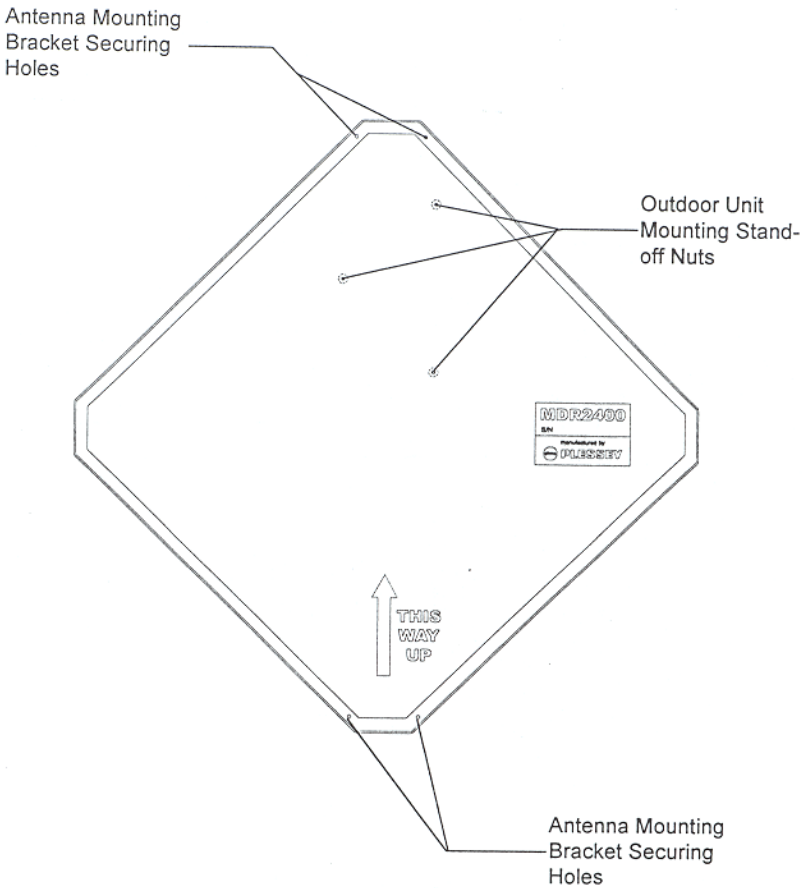
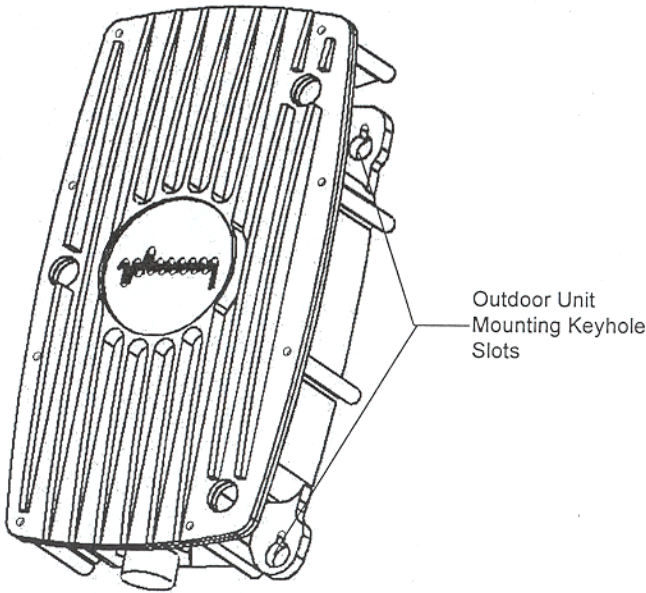

Figure 6. μLink Antenna.
Figure 7. μLink Outdoor Unit.
| 1. | Secure the C-shaped mounting bracket to the Antenna using the two securing screws and bolts (see Figure 6). |
Follow these steps to mount the OU onto the Antenna. See Figure 6 and Figure 7.
| 1. | Loosen the three OU securing stand-off nuts located on the Antenna (see Figure 6). |
| 2. | Position the OU on the stand-off nuts through the three (3) key hole slots on the OU (see Figure 7). |